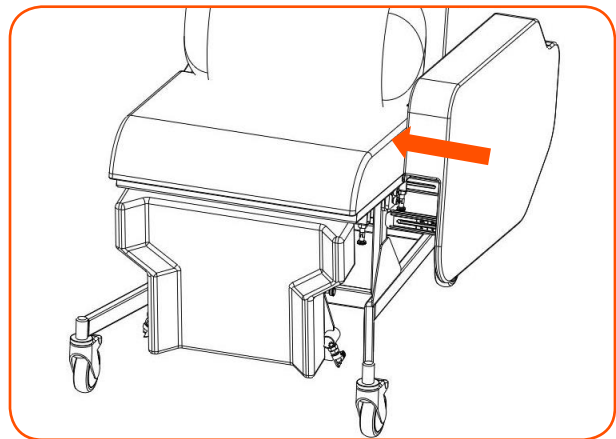
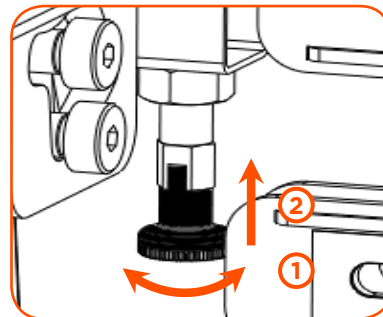

FIGURE 10
FIGURE 11
14. Locate the two sidepiece fixing bars into the chair frame. Push the sidepiece all the way in (Fig 10) and release the plunger by rotating it until the cap engages with the base (Fig 11).
7. Pull the plunger out, rotate 90 degrees and let go to lock the plunger in position (Fig 11).